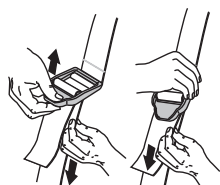

Fig. 4
4. Adjust length to fit the operator's size. Pull tab to lengthen, pull strap to shorten (Fig. 4).